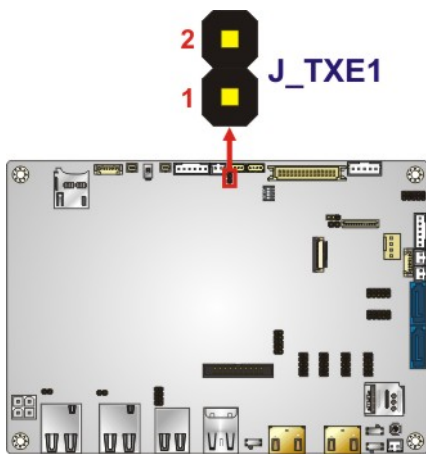

Figure 4-20: Flash Descriptor Security Override Jumper Location
- CN Location:** See **Figure 4-20**